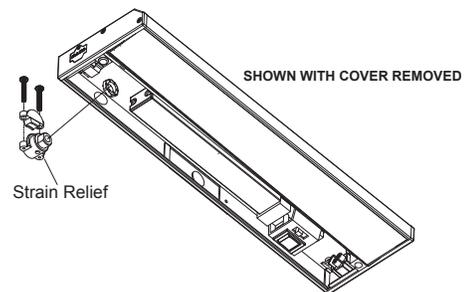

Figure 9
3. Attach the supplied strain relief by inserting the threaded end (from outside the luminaire) through the knockout. Secure the strain relief to the luminaire's chassis by tightening the fastener (from inside the luminaire) (Fig. 9).